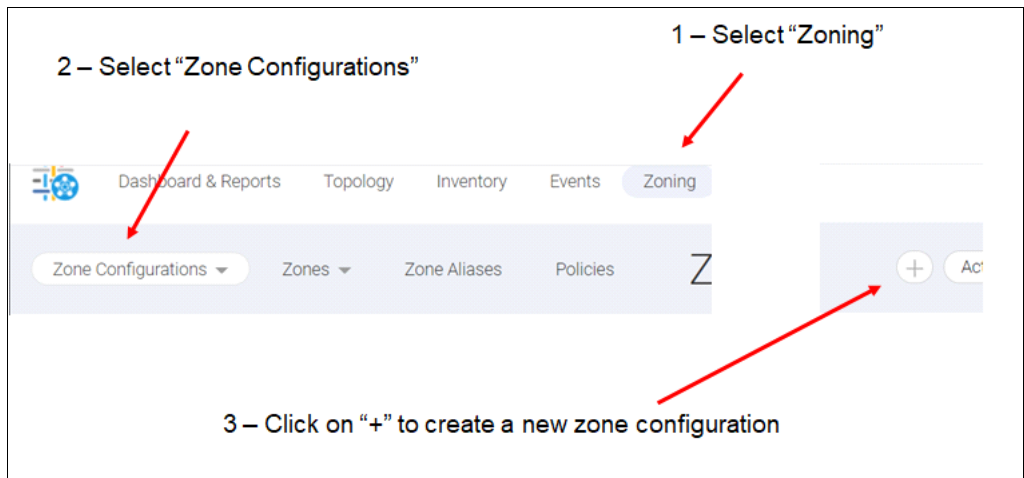

Figure 6-24 Creating a zone configuration
- h. Add the zone (or zones) to a zone configuration (see Figure 6-24 on page 127). A zone configuration is a collection of zones.